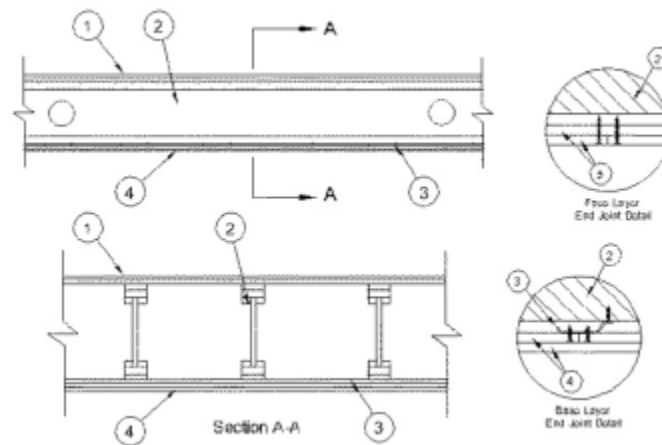

FIGURE 2—Unrestrained Assembly Rating—1 1/2 Hour Finish Rating—60 Minute
4.2.2 Fire-resistance Floor and Ceiling Rating: The fire-resistance-rated assembly shown in Figure 2 is based on a UL design. Homasote 440 SoundBarrier® may be used in fire-resistance-rated floor/ceiling assembly when constructed as indicated in the design. When using these assemblies, all details must be in accordance with the specifications contained in UL *BXUV GuideInfo*.